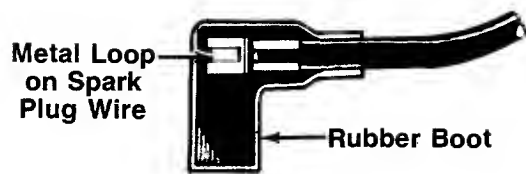

FIGURE 13.
1. Attach spark plug wire to spark plug. If unit is equipped with a rubber boot over the end of the spark plug wire, make certain the metal loop on the end of the spark plug wire (inside the rubber boot) is fastened securely over the metal tip on the spark plug. See figure 13.